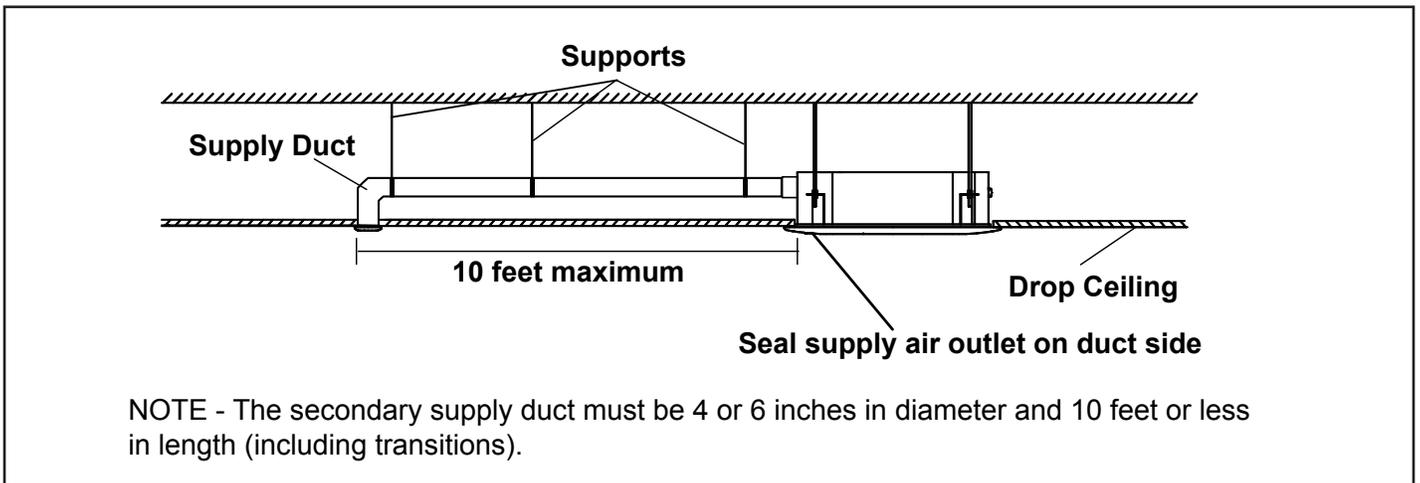

Figure 19. Supply Duct Maximum Length
11. The secondary supply duct must be 4 or 6 inches in diameter and 10 feet or less in length (including transitions). Figure 19